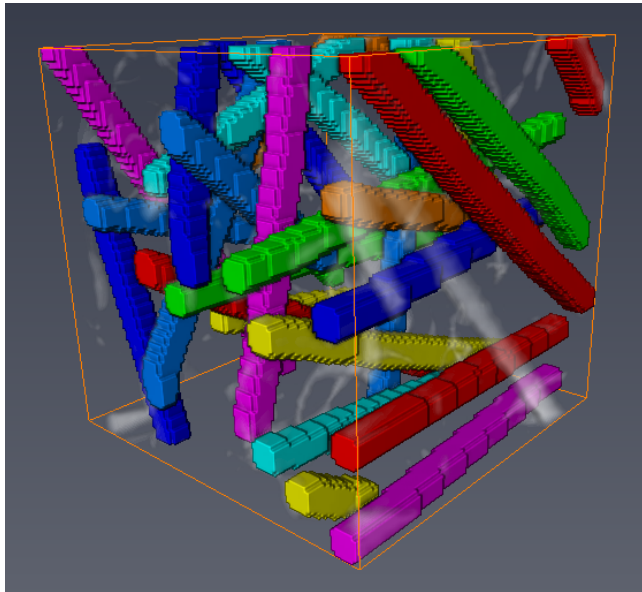

Figure 10.19: Dilated Centerlines
7. Once all parameters have been configured, click **Apply**. Attach the *voxelized rendering* module to the *Ball Dilation* result. The centerlines are dilated back to their original size as shown in Figure 10.19.